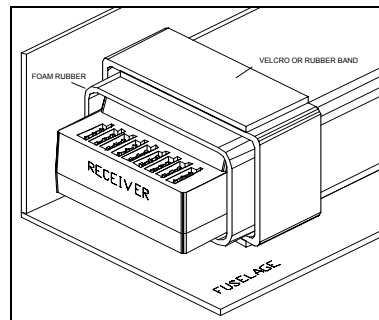

FIGURE 1
- Care must be taken when installing your receiver to isolate the electronics from vibration as much as possible. This can be done by wrapping the housing in a suitable foam rubber and affixing it to the fuselage using Velcro or a rubber band. See Figure 1 for details on receiver installation.